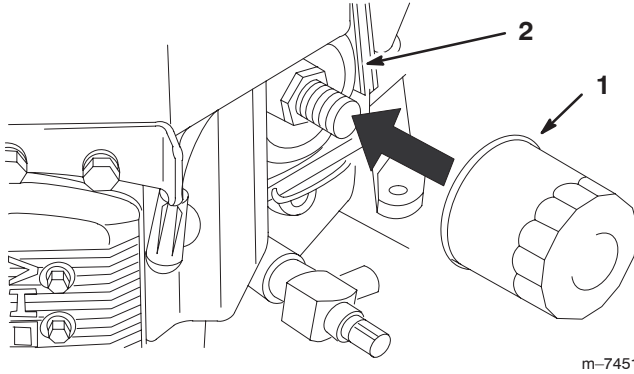

Figure 35
2. Remove the old oil filter (Fig. 35).
3. Apply a thin coat of new oil to the rubber gasket on the replacement filter (Fig. 35).
4. Install the replacement oil filter to the filter adapter, turn the oil filter clockwise until the rubber gasket contacts the filter adapter, then tighten the filter an additional 3/4 turn (Fig. 35).